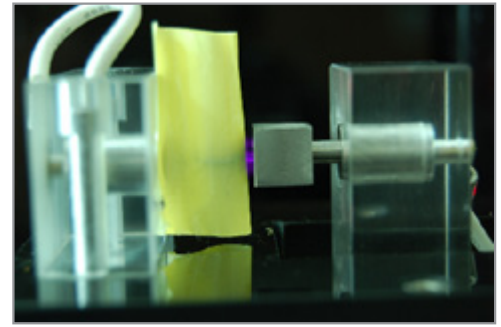

Figure 1: Corona Discharge
**Corona Discharge** : When the voltage between two electrodes increases, the electrical field becomes stronger. If the strength of the electrical field; produced by the current, is greater than the ionization potential of air, there will be temporary ionization of the air near the surface of the insulation materials. When this ionization occurs, visible light is produced and the temperature rises around the discharge area. Long term Corona discharge and heat may cause a Qualitative Change of the material, insulation deterioration, and finally insulation failure. Corona discharge, which is shown in Figure 1, is a transient discharge with a high frequency which can be detected by using high frequency measurements.